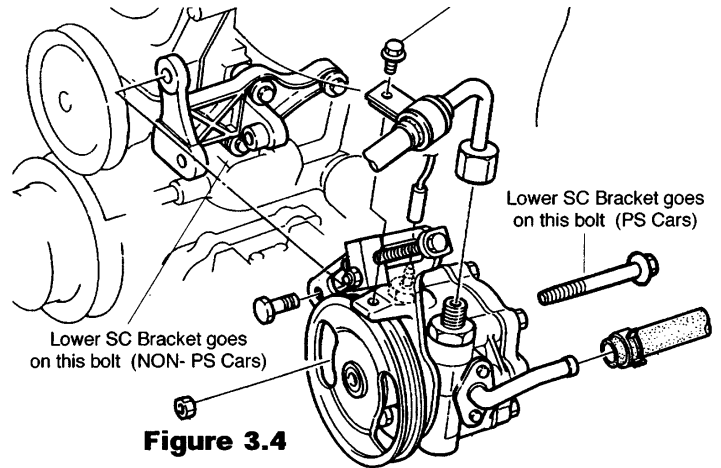

Figure 3.4
3.6 NON POWER STEERING CARS: Locate your lower bracket assembly from the kit. The end with the small 90-degree bracket mounts to the idler bracket (standard on AC equipped cars) or to new idler bracket (supplied with kit for non-AC, non-PS cars). Use the new, longer 10mm bolt provided to attach this bracket to the engine (Review figure 3.4 for bolt location).
Loosen the pinch bolts on your relocated power steering adjustment assembly (12mm head on pillow block pinch bolt, 14mm head on lower front bolt). Tighten the long bolt “D” per figure 3.4 to achieve correct belt tension. The longest run of the belt should not deflect more than $\frac{1}{2}$ of an inch when pressed down with around 22 pounds of thumb pressure. The tension specification is 90 pounds. An easy check for proper belt tension is done by listening to your belts during warm up. If turning the steering wheel with the air conditioning creates a squeal, then the tension is too loose. In general, only a slight amount of black dust should appear around the supercharger nose when the tension is correct. Heavy dusting